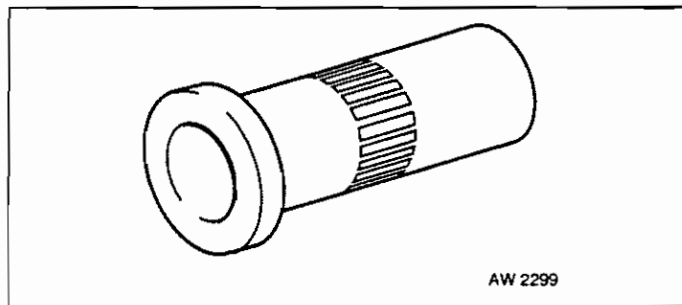

Fig 9.2 Journal Damage
- (1) With the swing arm clear of the vehicle, the journals with their thrust washers can be removed from the pivot. Wipe with a clean rag.
- (2) Fig 9.2 refers. The journal surfaces should be smooth and free from damage. Check for ridges caused by the needle rollers in the journal surface.